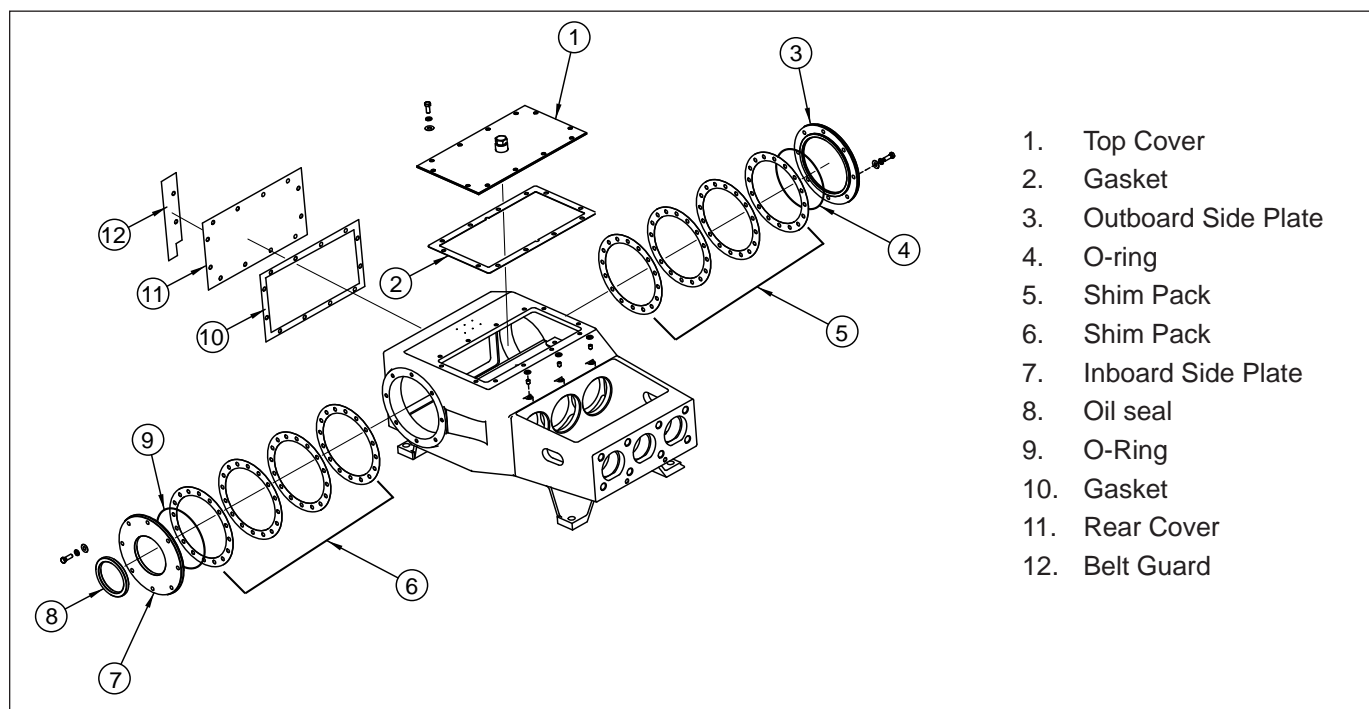

Figure 133: Power End Covers.
4. Remove the 12 capscrews and washers that secure the top cover (Figure 133) to the power frame. Remove the cover and the gasket.
5. Remove the 12 capscrews and washers that secure the rear cover (Figure 133) and belt guard to the power frame. Remove the cover, guard and gasket.
7. Remove the eight capscrews and washers that secure the inboard side plate (Figure 133) to the power frame.
9. Remove the eight capscrews and washers that secure the outboard side plate (Figure 133) to the power frame.